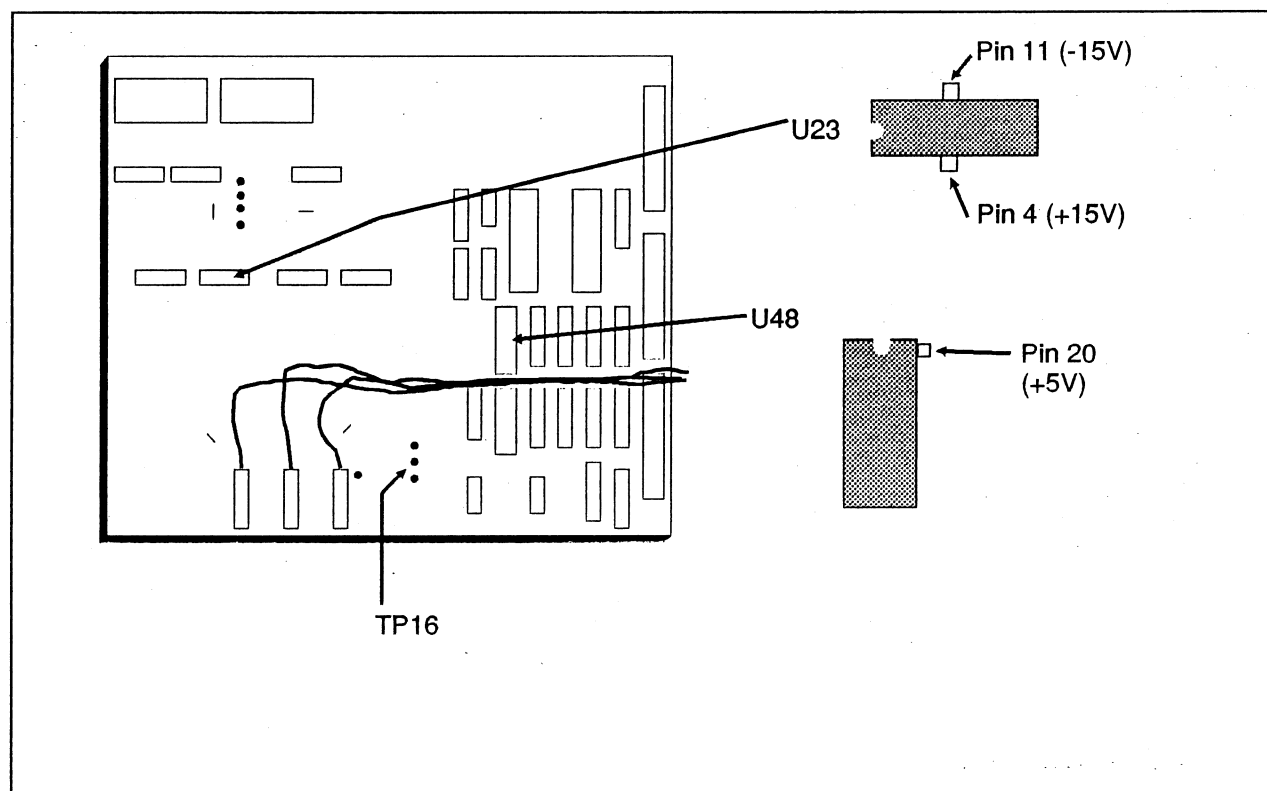

Figure 2-1. Power Supply Test Points
- 6 Measure the +5-volt power supply. Connect the DVM to U48 pin 20 (+) and TP-16 (-) on the DFE Board (see Figure 2-1). The voltage must be between 4.9 and 5.1 volts (Table 2-1). If the voltage is outside of this range, see *Adjusting the Power Supply* in this section.